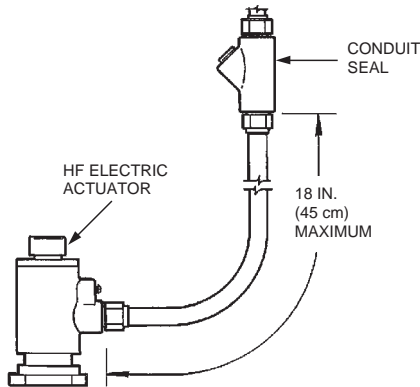

FIGURE 5
- When using the HF electric actuator in hazardous locations, a conduit seal must be installed within 18 in. (45 cm) of the actuator conduit connector as shown in Figure 5. All wiring must be in accordance with Articles 500 through 503 of the National Electrical Code.